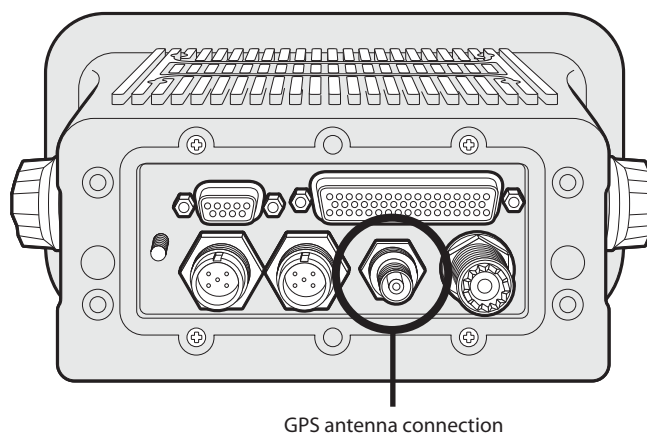
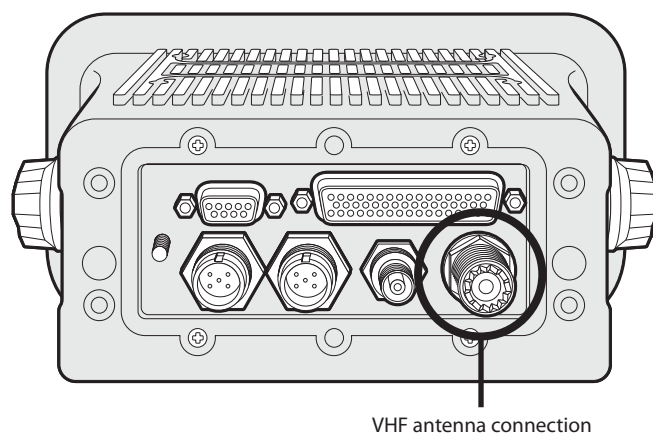

Figure 43 GPS antenna connection
Figure 45 VHF antenna connection
- Connect the GPS antenna cable to the GPS connector on the AIS transceiver as shown in Figure 43.
- Connect the VHF antenna cable to the VHF connector on the AIS transceiver as shown in Figure 45.
If antenna connections have not already been made the GPS and VHF antennas should now be connected to the transceiver. Refer to Figure 43 and Figure 45 for guidance.